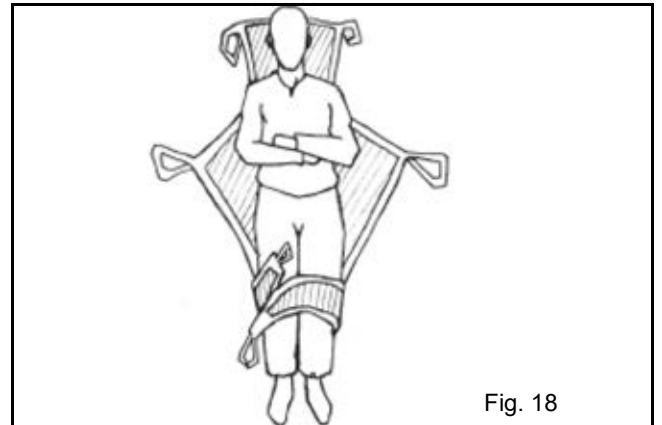

Fig. 18
- 2) Pull right leg strap under both legs, and lay it as patient's left side. Repeat with left leg strap, laying it at patient's right side. The sling is then crossed under patient's back. (see Fig. 18). Smooth out any "bunching" under the legs.